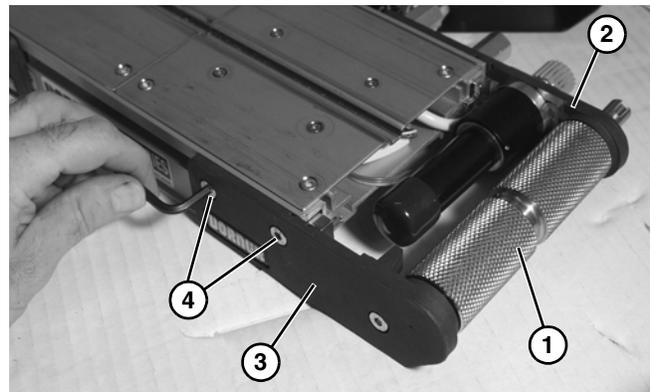

Figure 64
1. Install drive spindle (Figure 64, item 1) into head plate (Figure 64, item 2). Install head plate (Figure 64, item 3) and install screws (Figure 64, item 4).